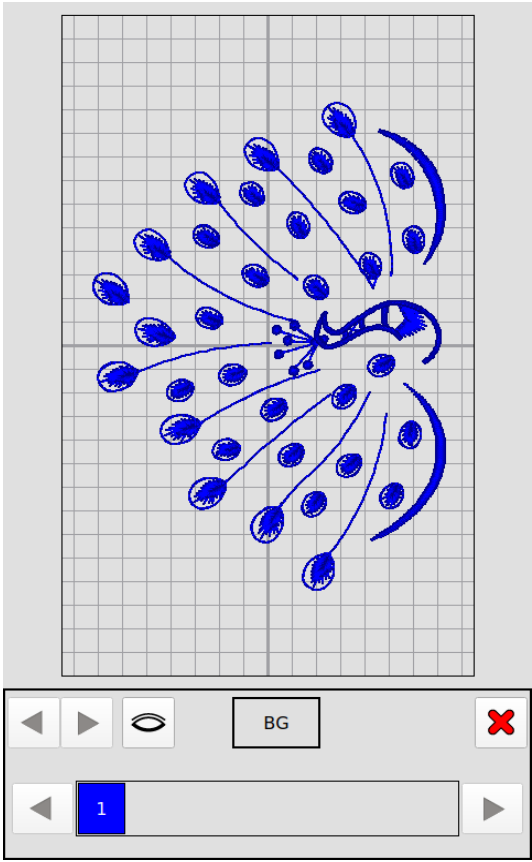
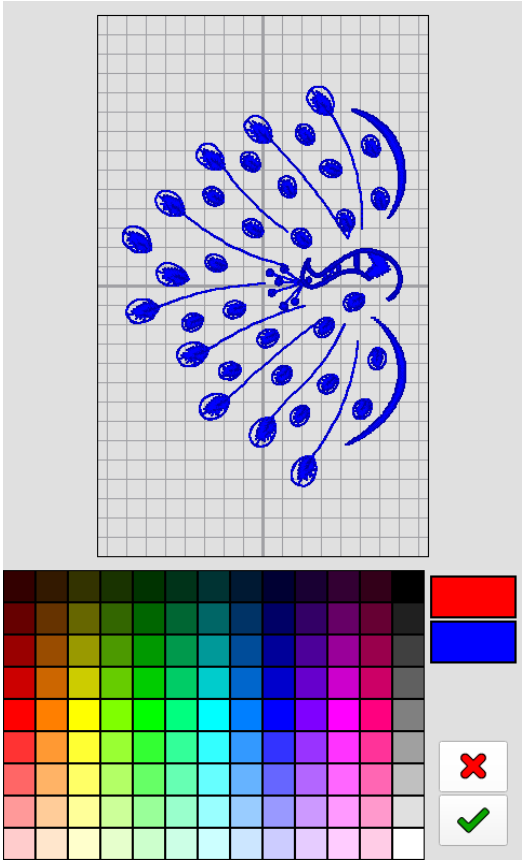

Figure 7
Figure 8
- (2) Twice click the color to be replaced, enter the Figure 7 interface, and click the color to be replaced, press confirm to enter the Figure 8 interface, then click the return button